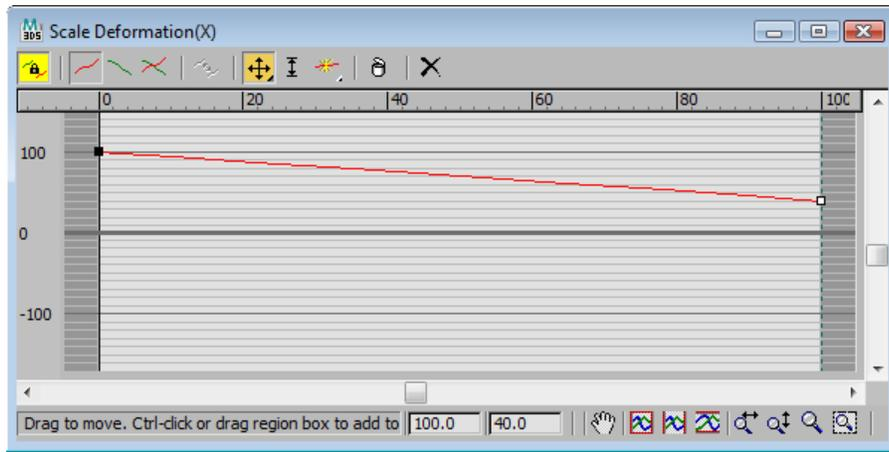

Figure 9-4A The vertex is moved in the Scale Deformation dialog box.
6. Move the right-hand vertex down by six lines until 40 is displayed in the right-hand text box at the bottom of the dialog box, **Figure 9-4A**.